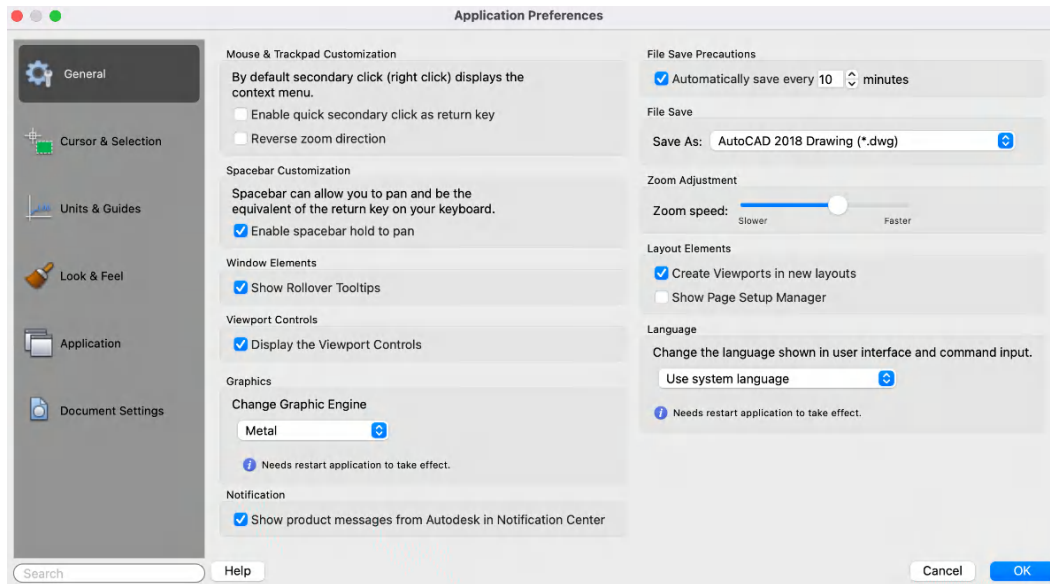

Figure 6.2: The Application Preferences dialog box in AutoCAD for Mac
**Noun/verb selection** is not supported in AutoCAD for Mac. You will also find that the **Options** dialog box is called **Application Preferences**. You can find this by clicking on **AutoCAD 2024** (top left – if you use the 2024 version; it will be **AutoCAD 2023** for AutoCAD 2023, etc.). Select **Preferences...** and the **Application Preferences** dialog box will open. Mac users can utilize this dialog box to manage their AutoCAD settings. These settings include **Look & Feel**, where the user interface can be adapted to suit the Mac user, and **Units & Guides**, where the user can set specific source content units and target drawing units, similar to how they would be set in the Windows version of AutoCAD. The dialog box is shown in *Figure 6.2*.